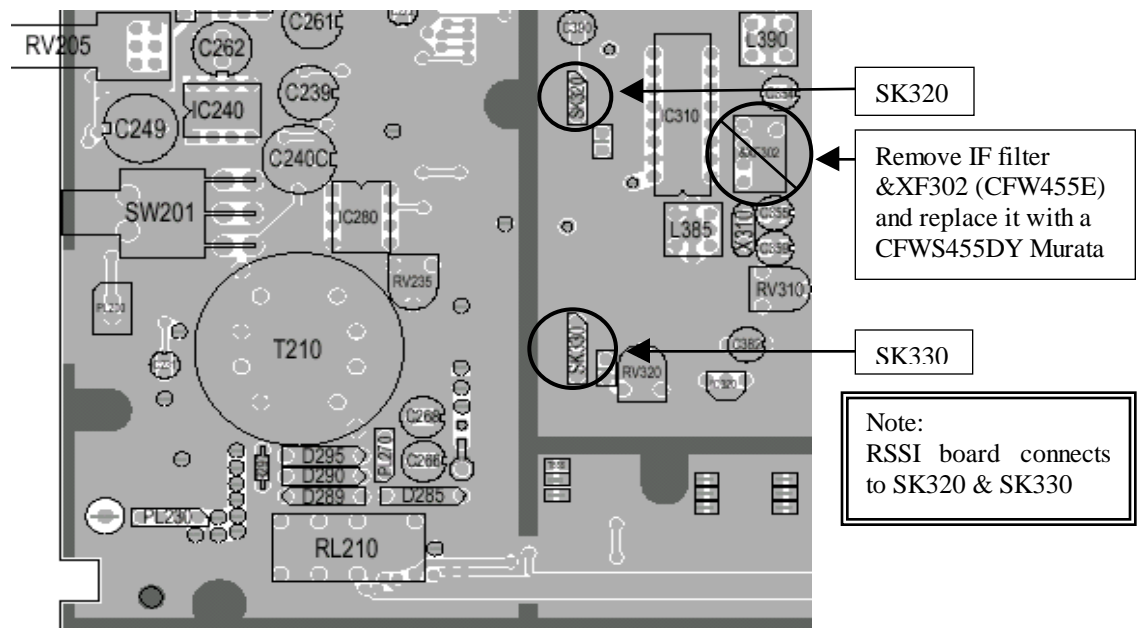

Figure 9 - T855 receiver PCB, Top Side 4/4
9. **Full channel** RX (T855-20), remove the IF filter &XF302 (CFW455E) and replace it with a CFWS455DY (Murata). Refer to Figure 9 page 9
11. Install the RSSI PCB T800-04-0000 at SK320 & SK330. Add some silicone on the top, between the PCB and IF cavity's wall. Refer to Figure 9 page 9